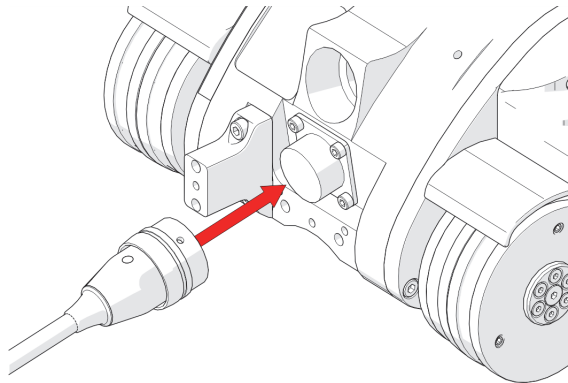

Figure 2-11 Connect to umbilical
1. Align the pins of the umbilical to the connector at the rear of the MapROVER (see Figure 2-11 on page 54).